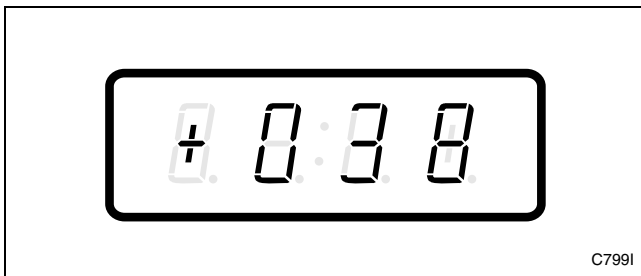

Figure 145
3. Press the DELICATES (+) or the COLD (-) keypad to scroll through the programmable options until “+038” appears in the VFD. Refer to *Figure 145*.